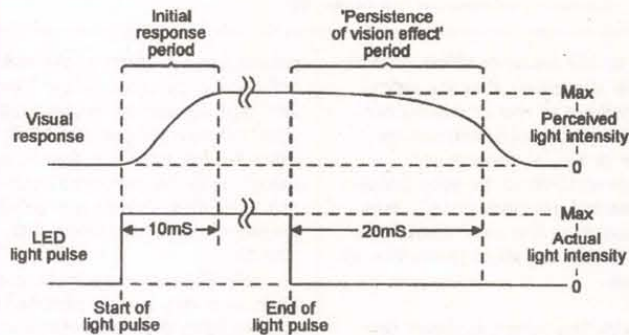

Figure 17. Typical 'light flash' response of the human eye/brain combination.
light levels; it is particularly sensitive to some types of flashing light. Figure 17 shows the typical 'light flash' response of the human eye/brain combination when presented with a bright LED-generated pulse of light.
(2). Note from Figure 17 that the flash must be present for at least 10mS to be seen (perceived) at full brilliance, and that — when the flash terminates — the 'persistence of vision' effect causes the perceived brilliance to decay fairly slowly, typically taking 20mS to fall to 50% of its maximum (pre-switch off) value.